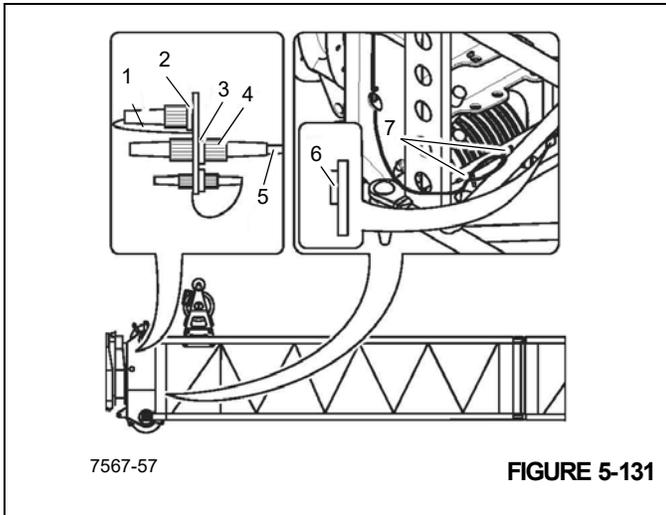

FIGURE 5-131
- Refer to (Figure 5-130) and (Figure 5-131).
1. Remove the protecting cap (1), (Figure 5-131) from the socket (3), (Figure 5-131).
2. Unwind the cable (5), (Figure 5-131) from the holder (7), (Figure 5-131).
3. Remove plug (4), (Figure 5-131) from the dummy socket (6), (Figure 5-131) and plug into the socket (3), (Figure 5-131).
4. Wind up the cable (5), (Figure 5-131) far enough on the holder (7), (Figure 5-131) so that it will not be damaged during operation.